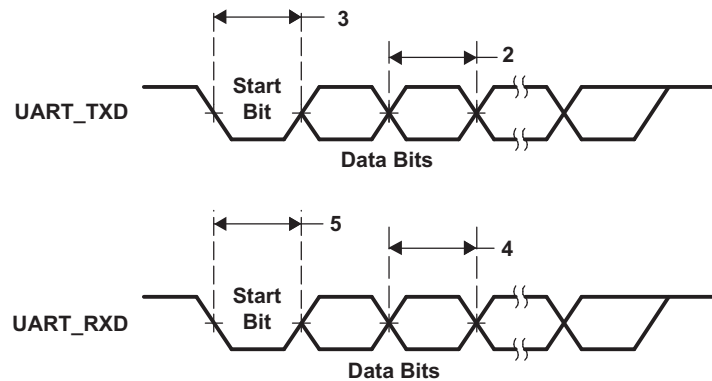

Figure 5-41. UART Transmit and Receive Timing
Table 5-35. Timing Requirements for UART Receive^{(1) (2)} (see Figure 5-41)
(1) U = UART baud time = 1/programmed baud rate.
(2) Based on a maximum CPU frequency of 50 MHz.
Table 5-36. Switching Characteristics Over Recommended Operating Conditions for UART Transmit^{(1) (2)} (see Figure 5-41)